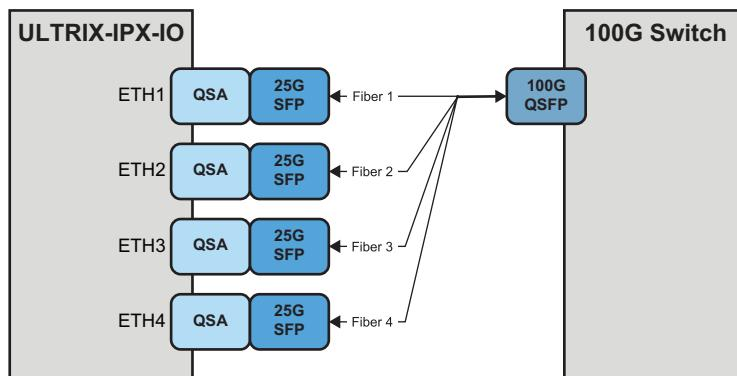

Figure 40 Workflow — QSA/SFP to Breakout/QSFP and 100G Switch with Breakout
**Figure 40** shows a simplified workflow where the UTRIX-IPX-IO provides bi-directional communication via four QSA (QSFP to 25G SFP adapter) using fiber cables connected to a 100G ethernet switch. Notice that this workflow does not support a redundant switch. If a separate networks is required, configure primary/secondary ports to different VLANs or subnets.